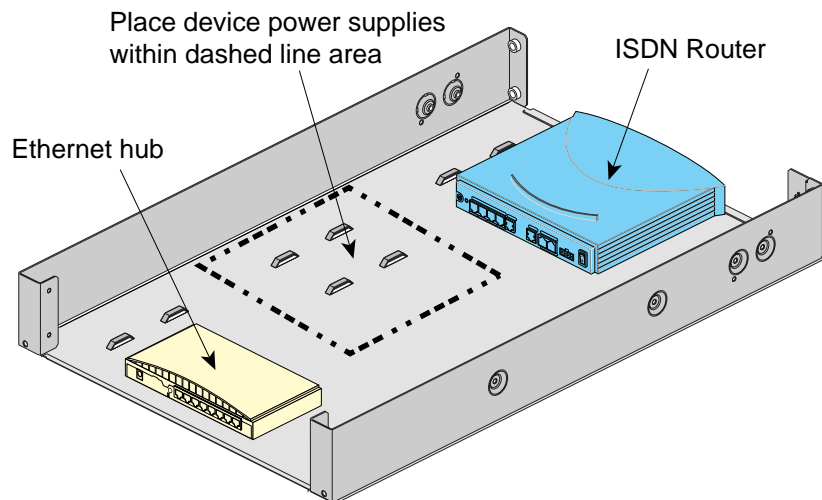

Figure 3-5 Utility Tray (Rear View)
The utility tray is a 2 U shelf that mounts in the top 2 U (slot 38 and 39) of the first compute rack (001) in an SGI Origin 3800 system. The purpose of the utility tray is to hold miscellaneous peripheral devices, such as the Ethernet hub, ISDN router and modem. The standard locations for these peripherals is shown in Figure 3-5. The devices placed on the utility tray will be held in place with velcro straps. A system that is configured with an ISDN router normally will not have a modem. Therefore, if a modem is configured, it will be placed in the same location as the ISDN router. The physical dimensions of the utility tray are 3.25 H × 17.5 W × 27.25 D.